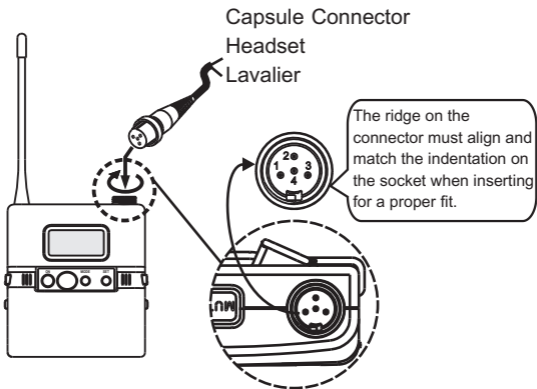

Fig. 3
1. Before turning on the power, connect the input signal source to the microphone input jacket ❶ first to avoid open-circuit induced noise.
2. Align and fasten the connector clockwise for a secured fit, Fig. 3.